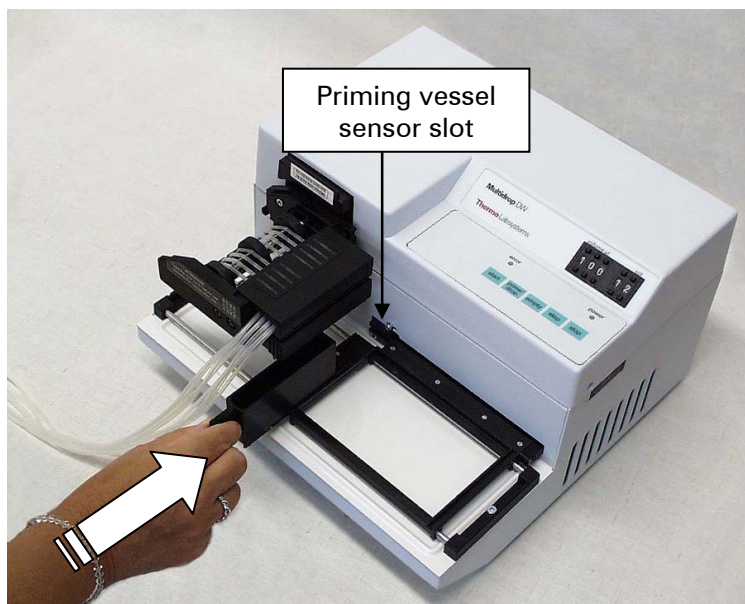

Fig. 6.5 Inserting the priming vessel into place
7. Ensure that the priming vessel is inserted correctly into its slot on the left of the plate carrier. You have fastened it correctly when it snaps slightly and is inserted into the sensor slot (*Fig. 6.5*).